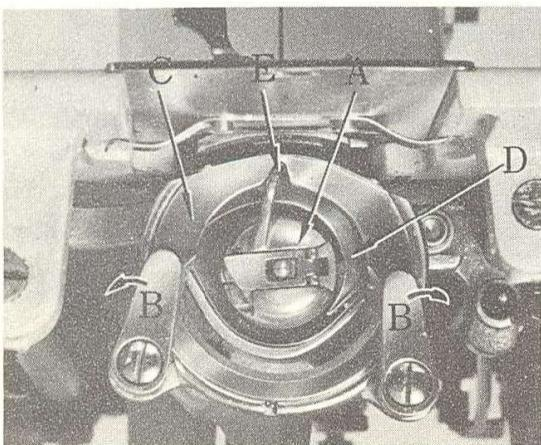

Fig. 43
2. Remove bobbin case (A), Fig. 43.
3. Turn the two shuttle race cover clamps (B) outward and remove the shuttle race cover (C) and shuttle hook (D).